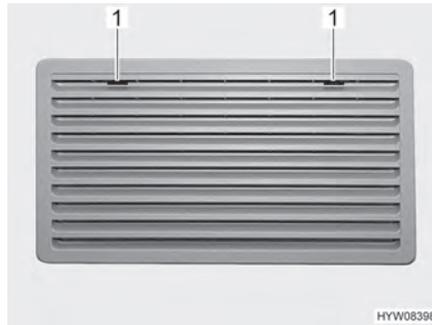
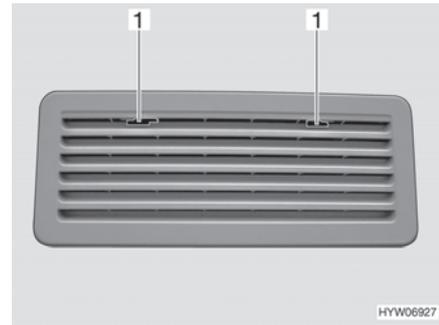

Fig. 131 Refrigerator ventilation grill (Thetford large)
Fig. 132 Refrigerator ventilation grill (Thetford small)
- Move the locking device (Fig. 131,1 or Fig. 132,1) to the middle.